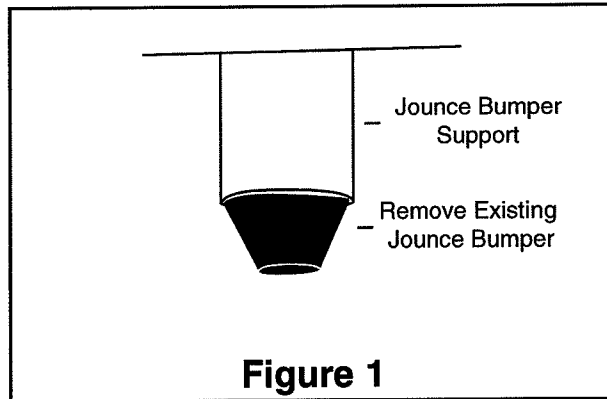

Figure 1
3. Remove rubber jounce bumper by pulling out of jounce bumper support (Figure 1).